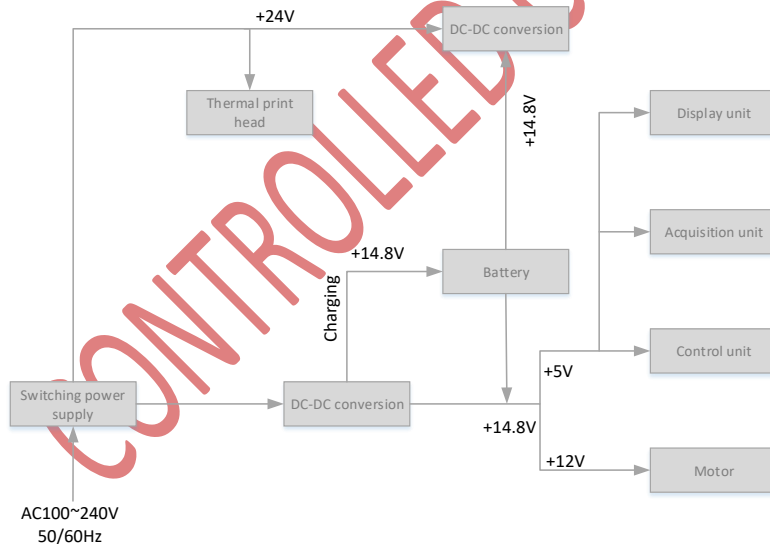

Figure 4-1 Power principle block diagram
2) The principle block diagram is shown in Figure 4.1